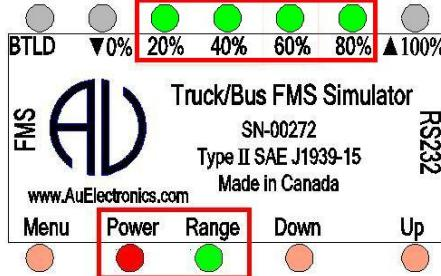

Figure 3-6 Power, Range, 20%, 40%, 60%, 80% LED on, indicating data range is from 81% to 99%
- If keep pressing Up button, the control step value will keep increasing. The 20%, 40%, 60%, and 80% LED will be on, as shown in Figure 3-6. It indicates the data range from 81% to 99%.